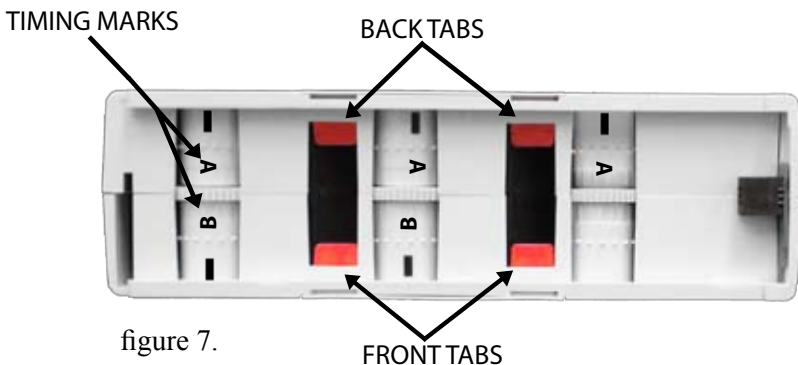

figure 7.
2. Check Belt Alignment: Align the timing marks so that the **A**'s and the **B**'s line up on top of the dispenser as in figure 7. To move the front or "A" belts, turn the gear to the left. To move the back or "B" belts, turn the gear to the right.